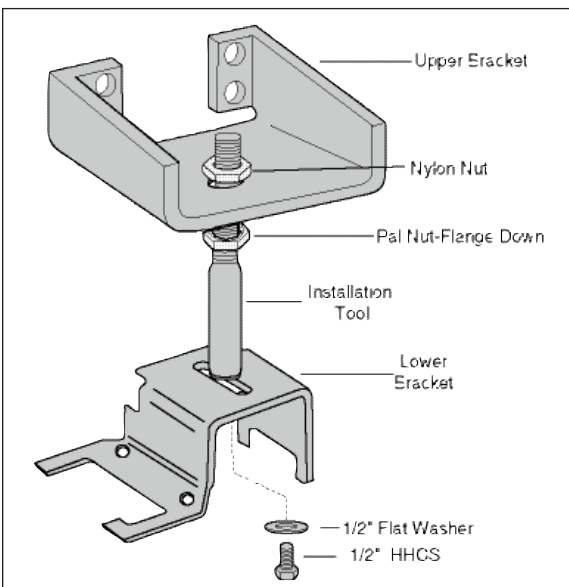

Figure 3
2. Place the upper bracket (legs up) onto the threaded end of the tool resting on the bottom Pal nut. Then thread a nylon nut onto the tool to hold the bracket in place (Figure 3).
3. Use the 1/2" x 7/8" hex head bolt and flat washer to attach the lower bracket to the bottom of the installation tool. Part #03001 is the driver-side bracket. Part #03002 is the passenger-side bracket. Leave loose enough to adjust in and out (Figure 3).